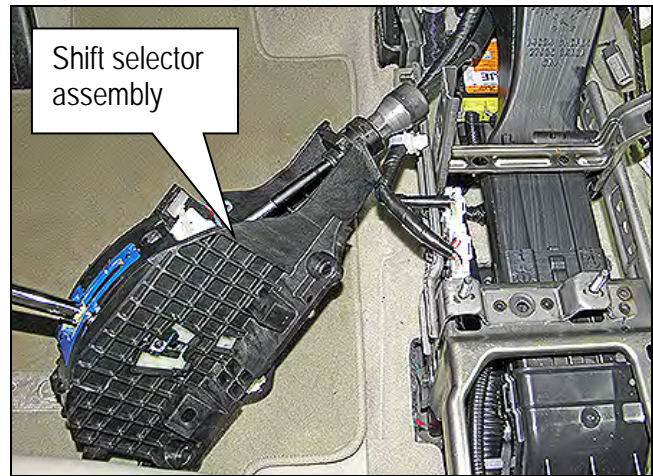

Figure 36B
19. Lift the shift selector assembly away from the center console brace and lay it on the driver's side floor (Figure 36B).